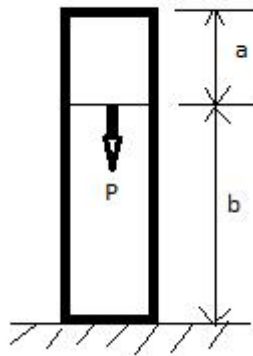

Figure.1
- b) Determine by taking the weight of the bar into account, the displacement of the free end of the bar shown in Figure.1, if its cross section is A and modulus of elasticity is E, and the specific weight of the material is .